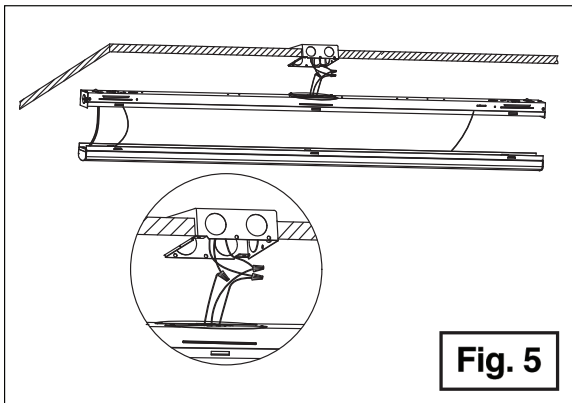

Fig. 5
5. Wire to the main power through the junction box. **(Fig. 5)**